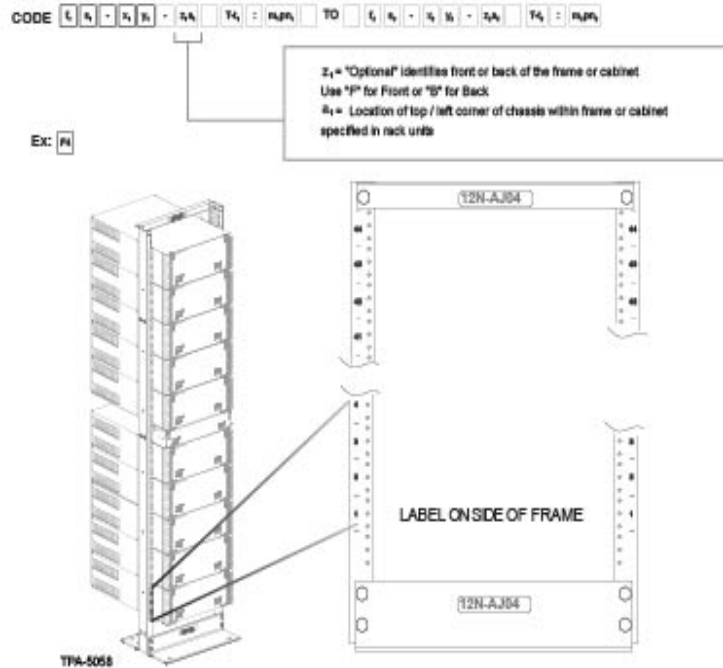

Figure 29 — Housing/Chassis Label Location
**Step 2: Housing/Chassis Location (Figure 29)**